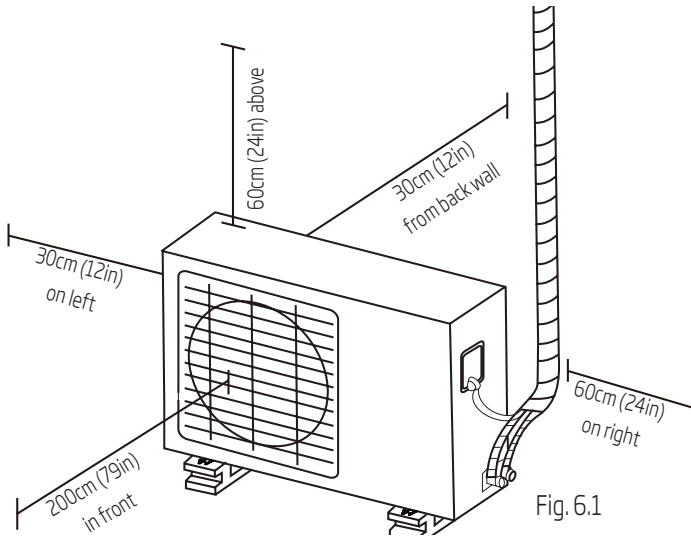

Fig. 6.1
- Meets all spatial requirements shown in Installation Space Requirements (Fig. 6.1)